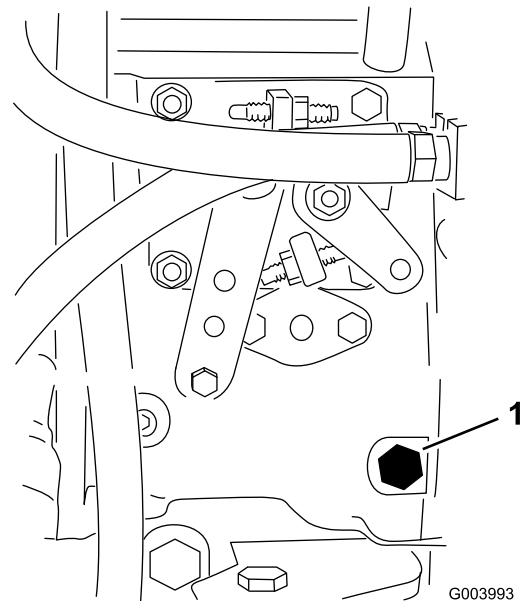

Figure 23
3. Open the air-bleed screw on the fuel injection pump (Figure 23) with a 12 mm wrench.